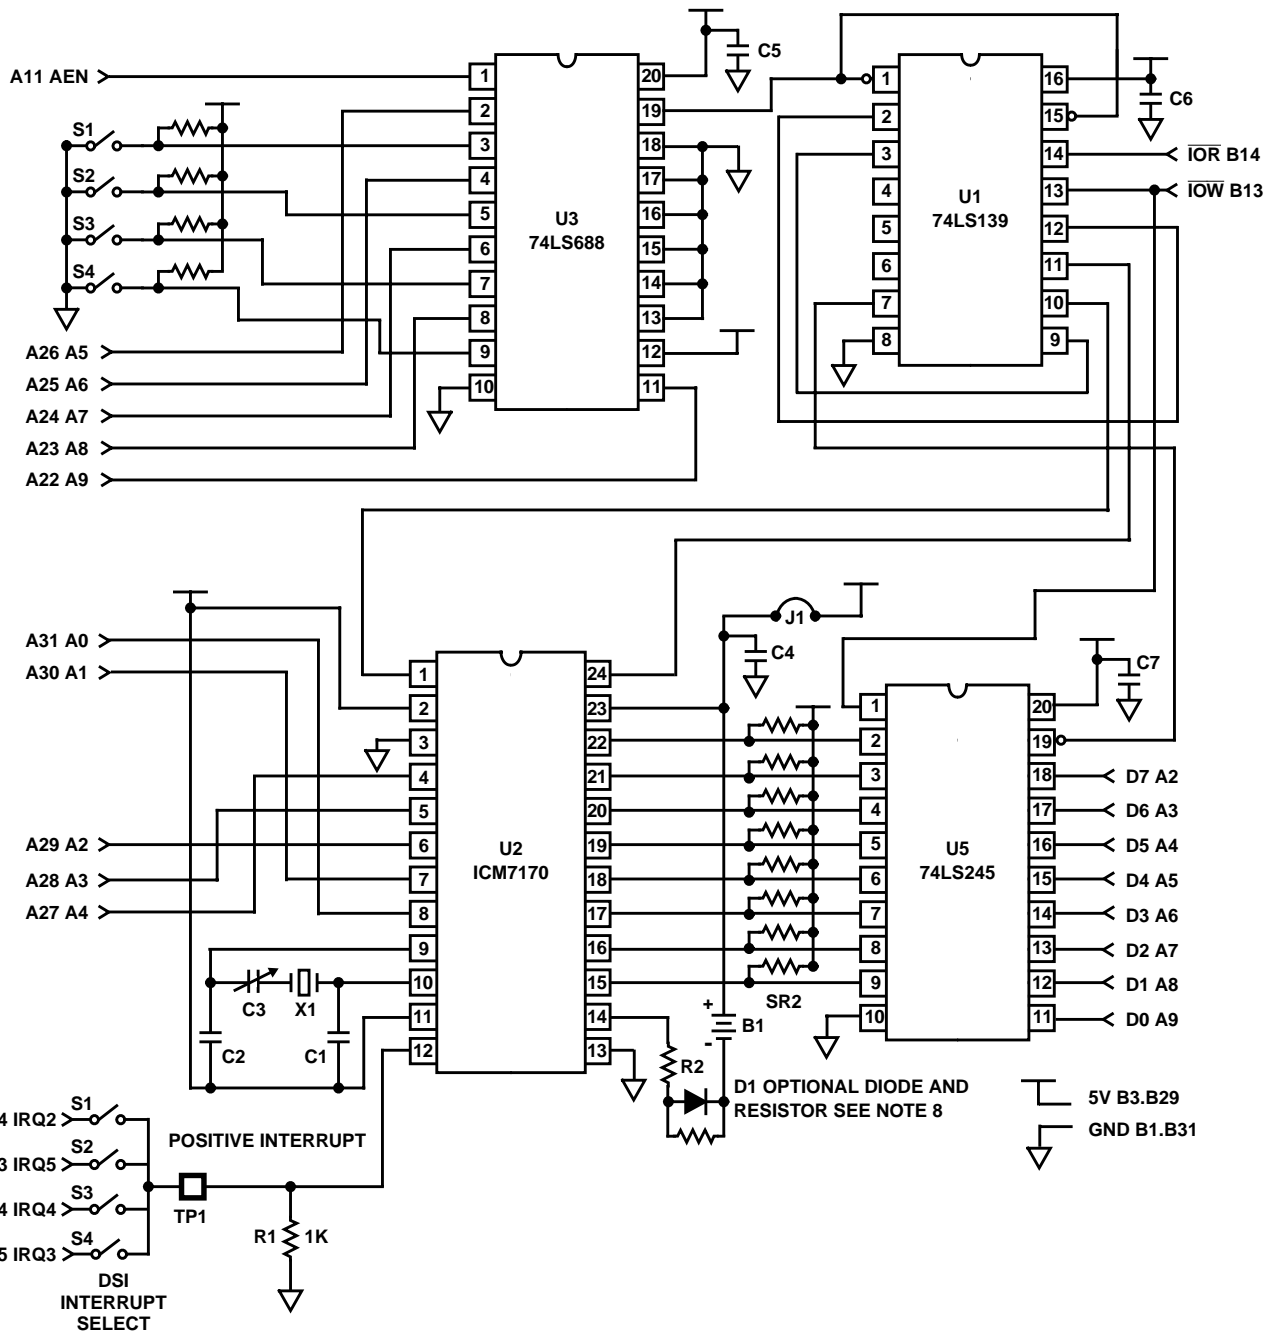

FIGURE 9. IBM PC INTERFACE FOR ICM7170Y
Figure 9 shows the schematic of a board that has been designed to plug into an IBM PC/XT (Note 1) or compatible computer. In this example \overline{CS} is permanently tied low and access to the chip is controlled by the RD and WR pins. These signals are generated by U1, which gates the IBM's \overline{IOR} and \overline{IOW} with a device select signal from U3, which is functioning as an I/O block address decoder. DS1 selects the interrupt priority.
8. **V_{BACKUP} DIODE** - Lithium batteries may explode if charged or if discharged at too high a rate. These conditions could occur if the battery was installed backwards or in the case of a gross component failure. A 1N914-type diode placed in series with the battery as shown in Figure 9 will prevent this from occurring. A resistor of 2M Ω or so should parallel the diode to keep the V_{BACKUP} terminal from drifting toward the V_{SS} terminal and shutting off ICM7170 I/O during normal operation.